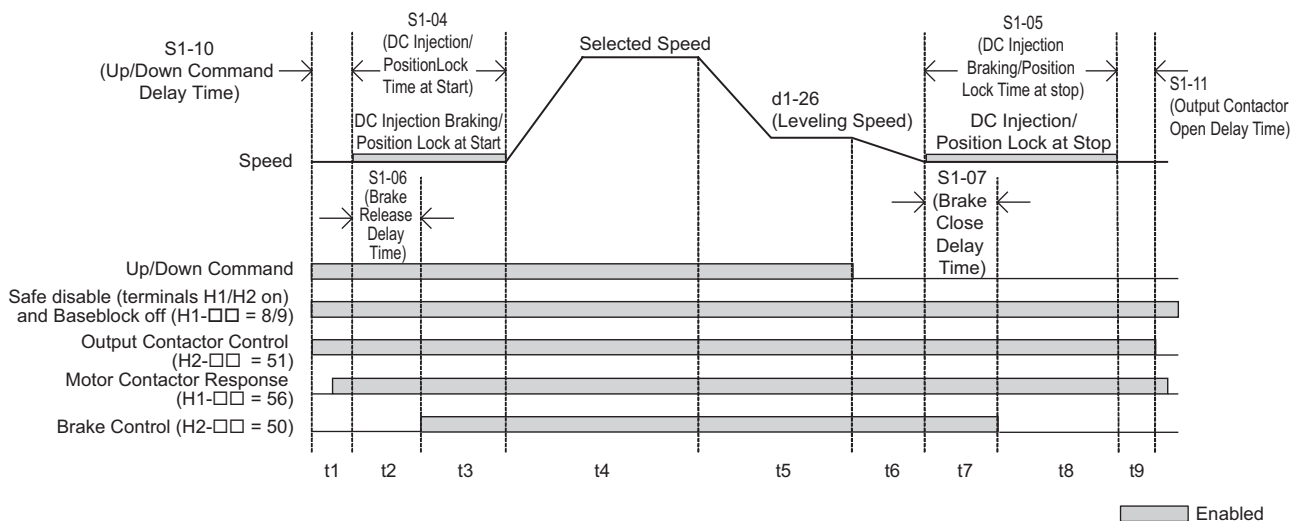

Figure 50 Brake Sequence without Torque Compensation at Start
*Figure 50* is divided into time zones.